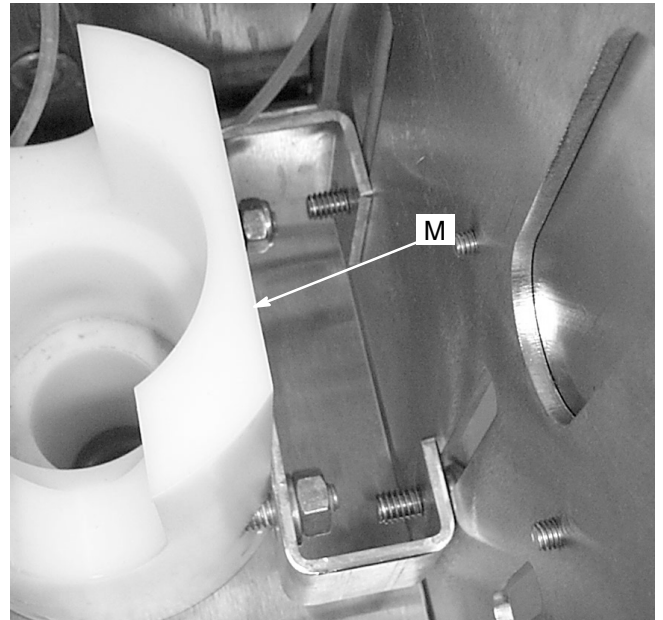

Fig. 11
4. Raise the gun holder (M) until the pin (N) opens the trigger. See Figs. 11 and 12.